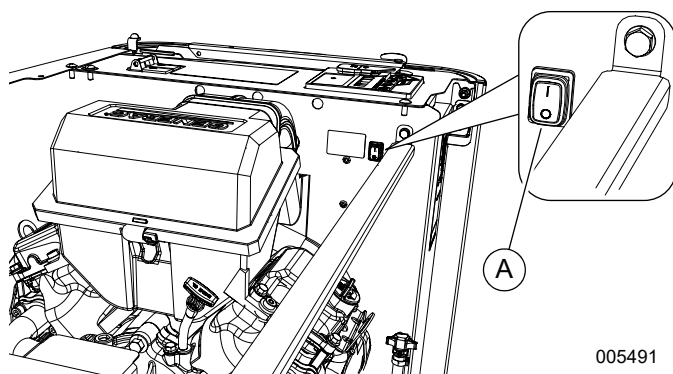

Figure 3-7. Internal Auxiliary Shutdown Switch (13–22kW)
See Figure 3-7. 13–22 kW generators also have an auxiliary shutdown switch (A) located inside generator.